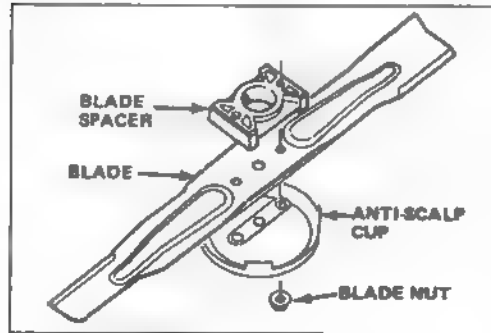

Figure 23
5. REMOVING BLADE – Grasp end of blade using a rag or thickly padded glove. Remove blade nuts, anti-scalp cup, blade, and spacer (Fig. 23).